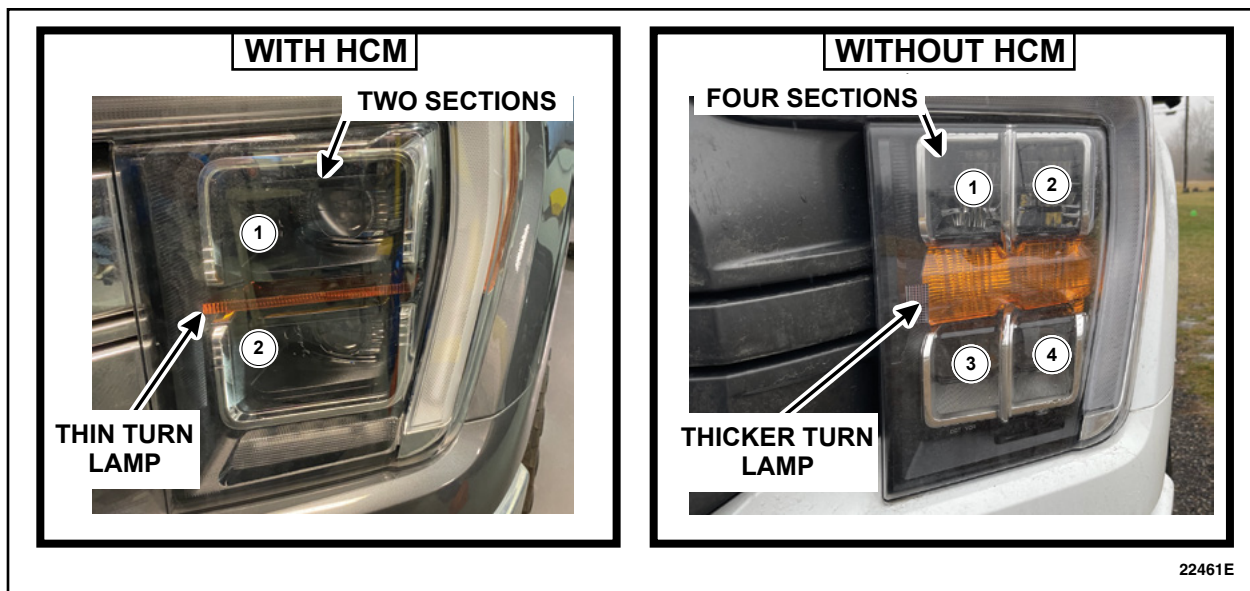

FIGURE 1
1. Inspect the headlamps to determine if the vehicle is equipped with a Headlamp Control Module (HCM). Which headlamps are equipped on this vehicle? See Figure 1.